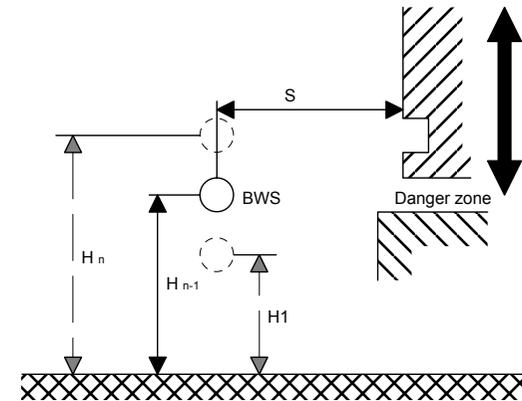

Figure 5
This safety distance (S) depends upon the reaction time of the BWS-T2, the speed of the person or object penetrating the "guarded" area (approx. value:  $v=1.6\text{m/s}$ ) and the lagtime of the machine. See figure 5.